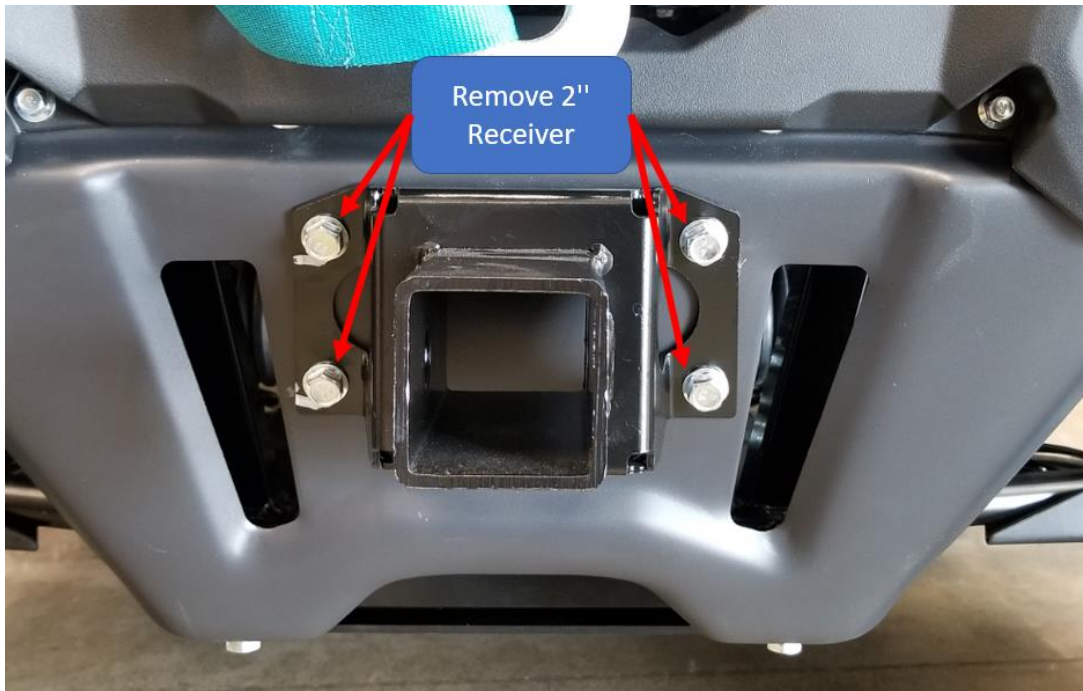

Figure 1
1. Remove front 2" Receiver as shown in **Figure 1**